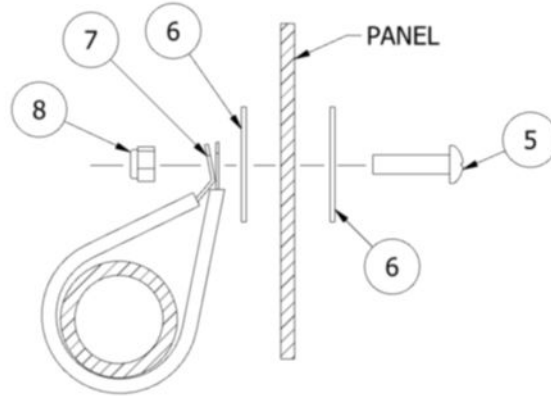

FIGURE 10
1. Locate (1) ITEM 5 , (2) ITEM 6's, (1) ITEM 7, and (1) ITEM 8. **SEE FIGURE 10.**
2. Place ITEM 5 in ITEM 6 and insert into top center hole of ITEM 12. Place ITEM 7 over ITEM 10 with flat side towards panel; **SEE FIGURE 10**. Lift ITEM 12 with UV tag side out onto ITEM 7 and attach as follows; with ITEM 7 on ITEM 10, place ITEM 6 over ITEM 5 followed by ITEM 7 such that the flat side of the clamp lies against the fender washer. Tighten ITEM 8. **SEE FIGURE'S 10 & 11.**
3. With ITEM 13 proceed as in Steps 1 & 2 of panel assembly instructions assuring that the panel is centered prior to attachment of clamps. **SEE FIGURES 10 & 11.**
4. Repeat Steps 1 & 2 for the right side panel. **SEE FIGURES 10 & 11.**